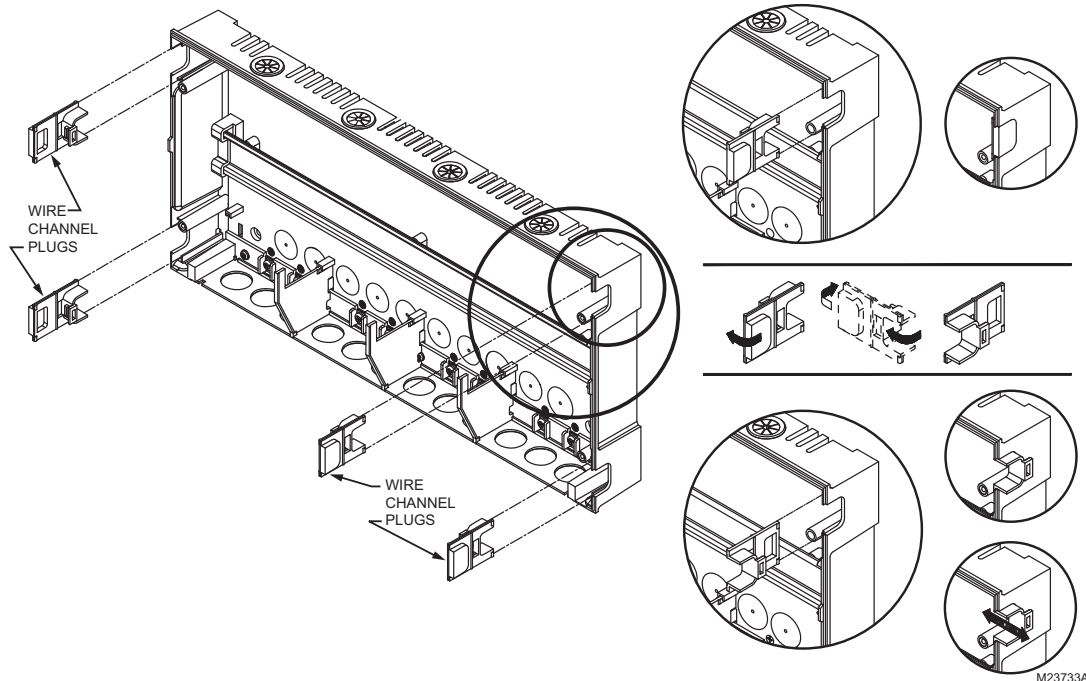

Fig. 3 Orientation of Wire Channel Plugs for Creating pass-through wire channel and for Joining Control Panel to Expansion Zoning Panels
3. Remove wire channel plugs from the AQ250 Control Panel and any Expansion Panels (see Figure 3).
5. Reverse wire channel plugs and re-insert them into their slot to from a wiring channel between the Control Panel and the Expansion Zoning Panel (see Figure 3) and to connect the two panels together.